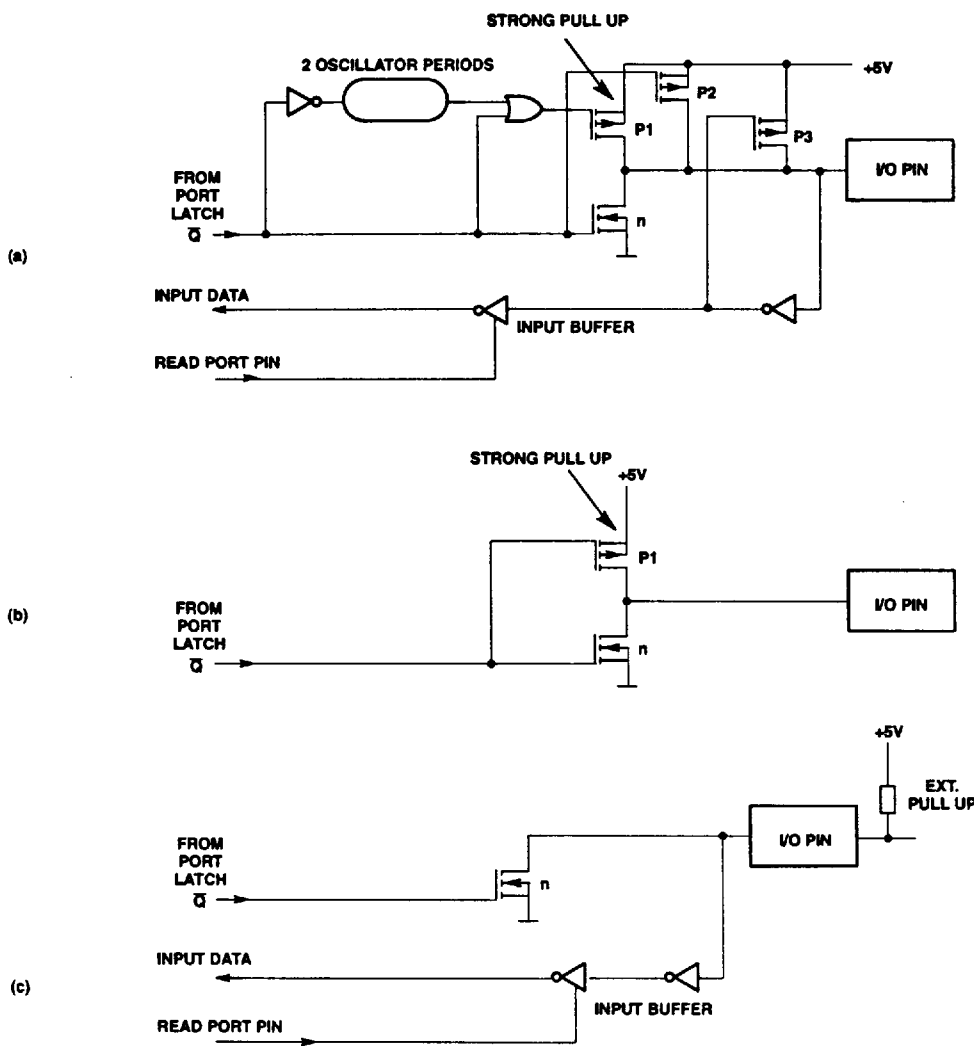

Figure 3. Ports
Each port consists of a latch (Special Function Registers P0 to P3), an output driver and an input buffer. Ports 1,2,3 have internal pull ups. Figure 3(a) shows that the strong transistor p1 is turned on for only 2 oscillator periods after a 0-to-1 transition in
The pins of port 1, port 2, and port 3 may be individually configured with one of the following options (see Figure 3):
- Option 1:** Standard Port; quasi-bidirectional I/O with pull up. The strong booster pull up p1 is turned on for two oscillator periods after a 0-to-1 transition in the port latch (see Figure 3(a)).
- Option 2:** Open drain; quasi-bidirectional I/O with n-channel open drain output. Use as an output requires the connection of an external pull up resistor (see Figure 3(c)).
- Option 3:** Push-Pull; output with drive capability in both polarities. Under this option, pins can only be used as outputs. See Figure 3(b).
- Option 2: Open drain; quasi-bidirectional I/O with n-channel open drain output. Use as an output requires the connection of an external pull up resistor (see Figure 3(c)).
The status of the external pins during Idle and Power-down mode is shown in Table 4. If the Power-down mode is activated while accessing external memory, port data held in the Special Function Register P2 is restored to Port 2. If the data is a logic 1, the port pin is held HIGH during the Power-down mode by the strong pull up transistor p1 (see Figure 3(a)).